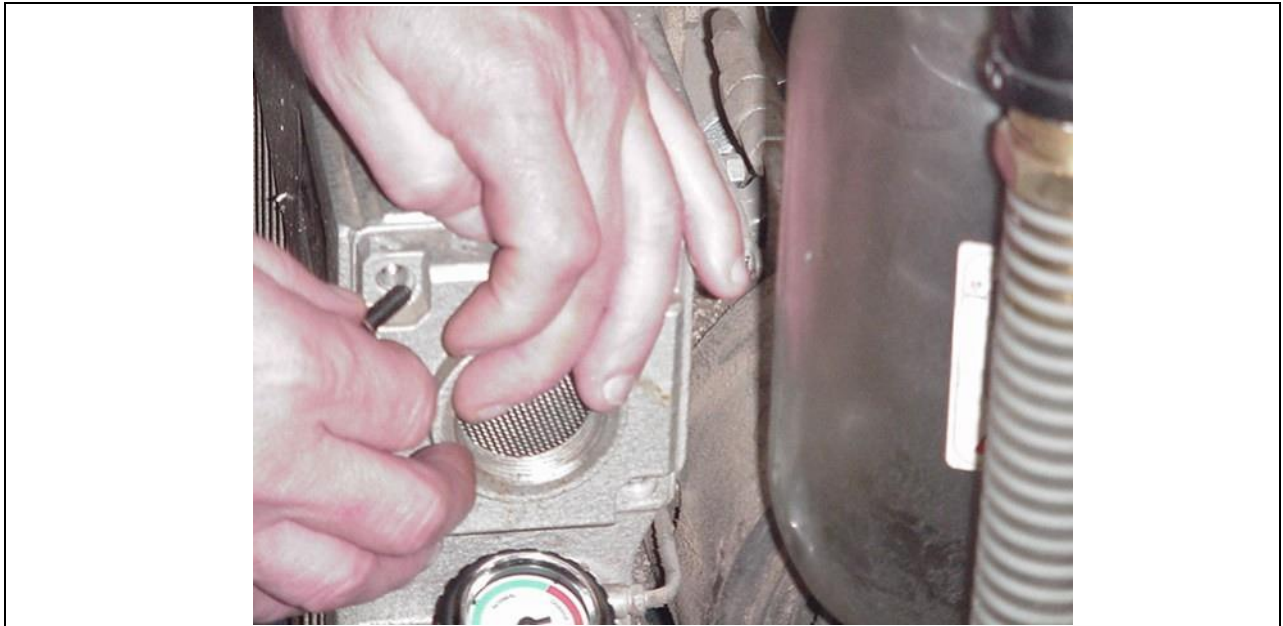

Figure 3 Removing Exhaust Housing
Remove the four (4) socket head cap screws retaining the exhaust port housing (see Figure 3). Pull the housing off the exhaust box and set it aside.